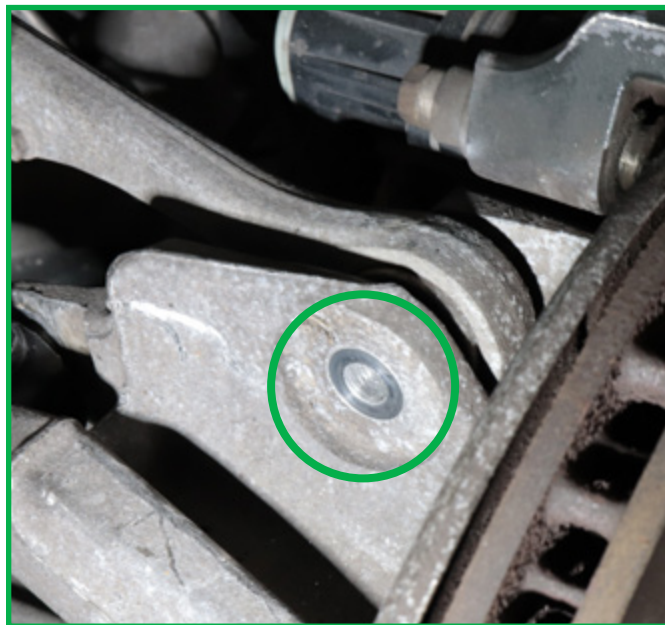

FIGURE 7
7. Remove the upper control arm bolt at the wheel knuckle to allow clearance for the new strut. (Figure 7)